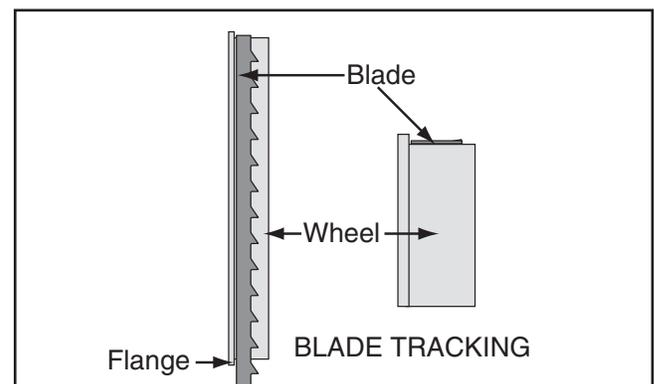

Figure 42. Center tracking profiles.
- Open the upper wheel cover and familiarize yourself with the wheel, the wheel flange, the blade, and the relationship between the blade and wheel flange (**Figure 42**).